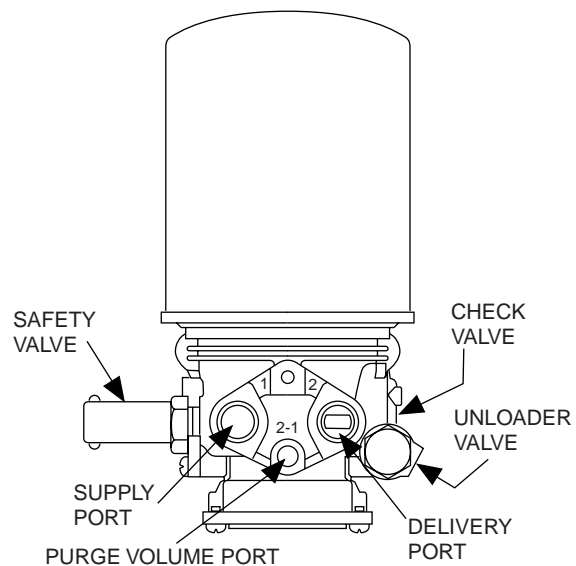

Fig. 3 - Port and Valve Identification
on air tanks when air is exhausted. Carefully loosen the union nuts at purge port (2-1, Fig. 3) and delivery port (2, Fig. 3) on air drier to relieve any trapped air.
1. Pull off and discard protection cap (2) from unloader valve assembly.
2. Unscrew and discard valve retaining cap (3). Remove and discard adjusting bush (1) and 'O' ring (7).
3. Remove and discard control spring (8) and control rod (6).
4. Remove and discard outer bonded valve (9) and pilot valve piston bush (5).
5. Remove and discard pilot valve piston (10) and inner bonded valve (4).
**Note:** Air driers date coded 9401 onwards may have a filter located at the end of the air passage of delivery port (2, Fig. 3). Should the filter appear to be blocked or contaminated, it should be removed (which will destroy it) and replaced.